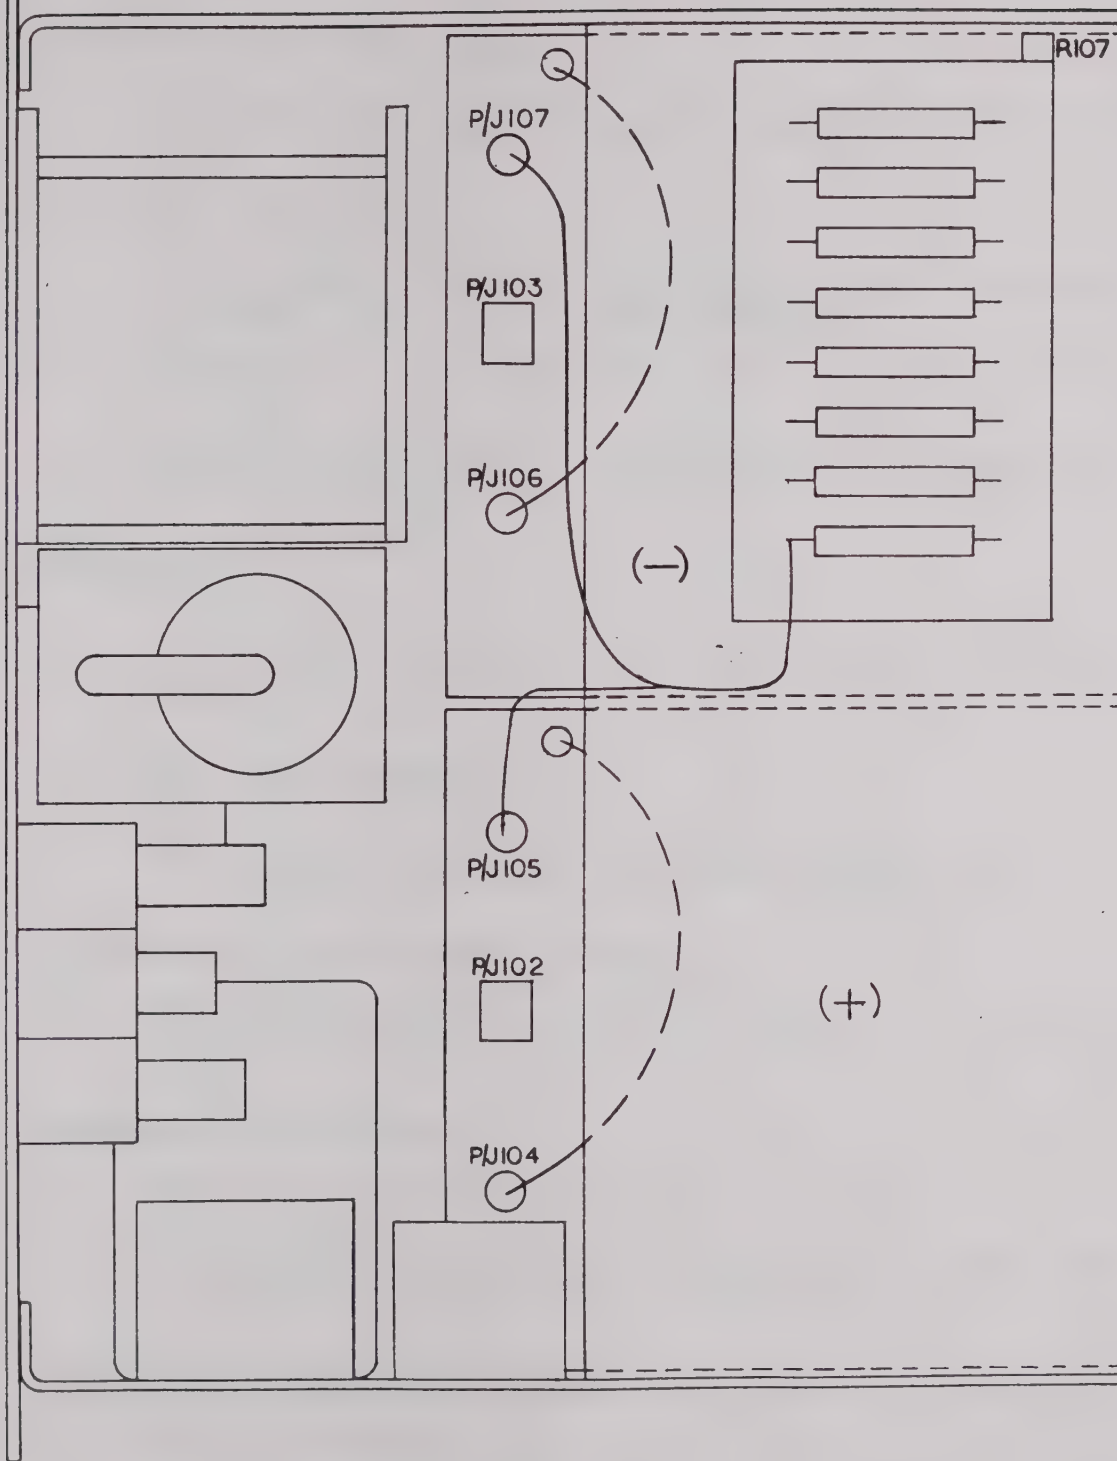

FIG 6-2
2. Pull P-102 and P-103 (see Figure 6-2).
1. Ground P-105 or P-107 and adjust R-107 (see Figure 6-2) for a zero reading (polarity sign indecision) on front panel DPM.